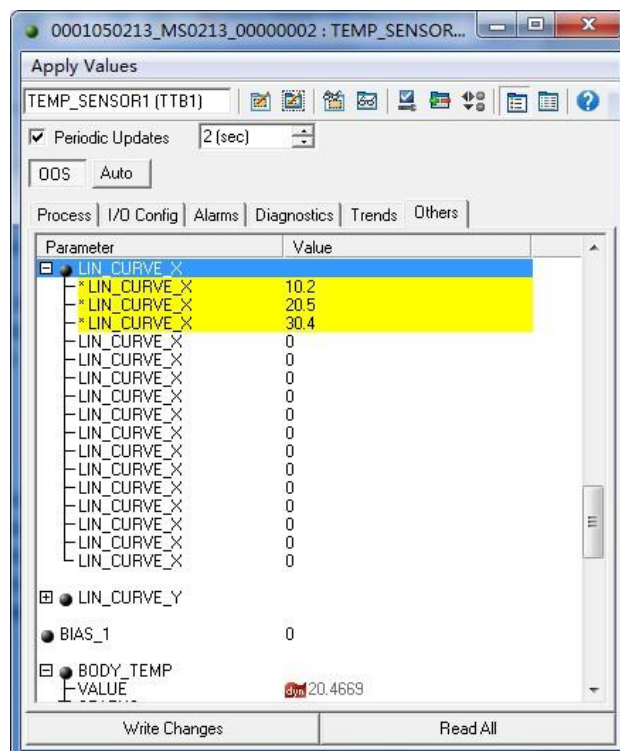

Figure 3.5 CAL_POINT_X configuration
2. Input the standard signal through the standard source and open the corresponding transformation block on the configuration software, read the value of parameter PRIMARY_VALUE respectively, and write the value to CAL_POINT_X array. For example, write the read values 10.2, 20.5 and 30.4 in the CAL_POINT_X array, as shown in Figure 3.5. This is the end of the calibration work.